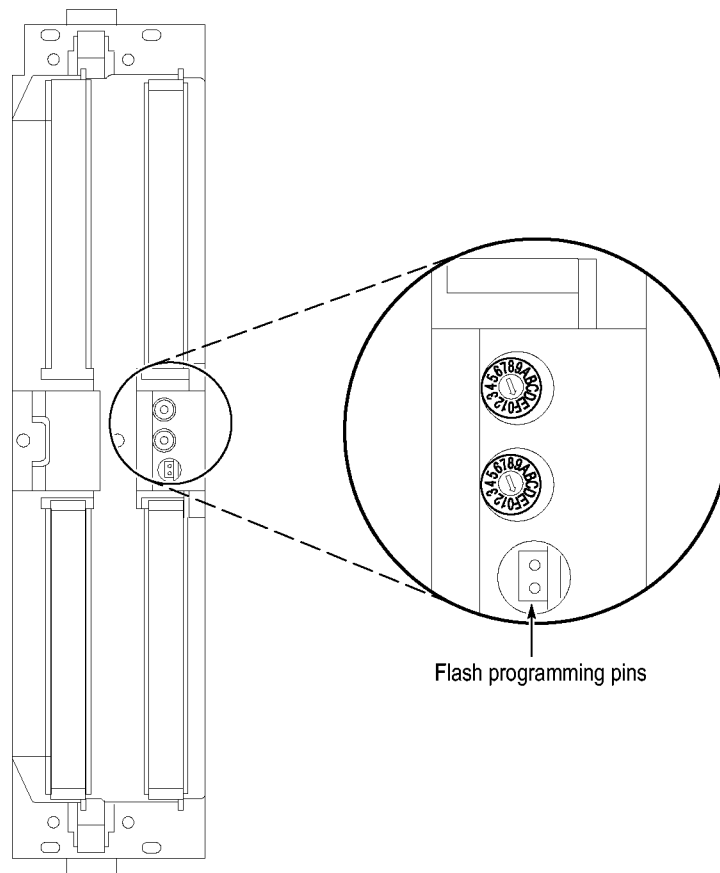

Figure 58: Flash programming pins
5. Locate the flash programming pins on the rear of the module. (See Figure 58.)